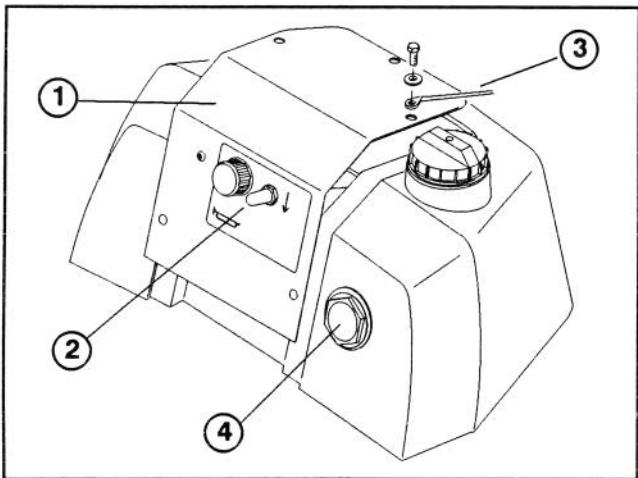

Figure 4
16. Before reattaching cover plate, test leak detector switch (Fig. 4) with main tractor key switch in "on/run" position. Buzzer should sound with toggle switch held in the down position for 1 second.
18. Assemble cover plate to auxiliary tank with fasteners previously removed and secure cap tether (Fig. 4) under nearest hole to fill neck.
19. Fill auxiliary tank to top of sight glass (Fig. 4).